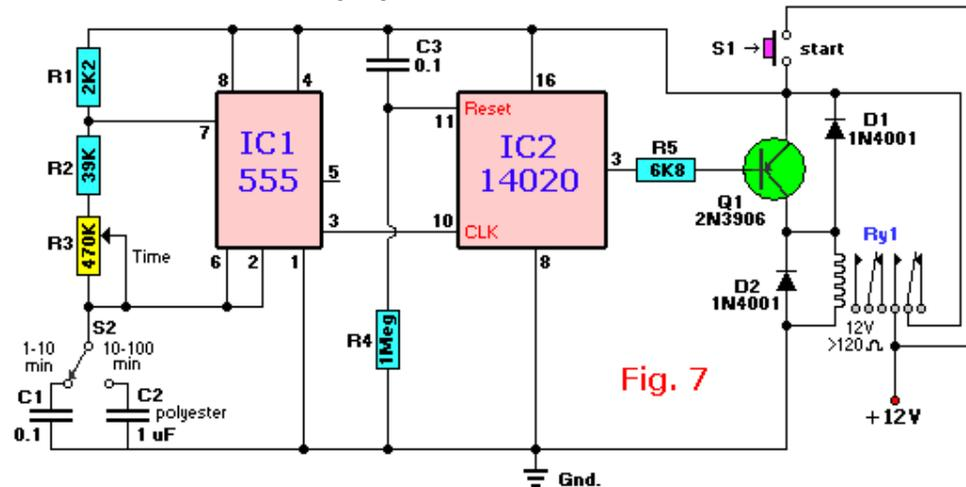

Fig. 7
**Fig. 7** This is an accurate **long-duration** time delay driver, switchable between 1 and 10 minutes or 10 to 100 minutes and whose function does not depend on electrolytic capacitors. Film dielectric caps have been selected. IC1 is configured as a free-running astable multivibrator whose frequency is divided down by IC2, a 14020 (or 4020) CMOS 14-stage, ripple-carry binary divider. Consequently relay RY1 turns on as soon as switch S1 is closed, and it turns off again when the 8192nd astable pulse arrives. This method provides time periods ranging from 1 to 100 minutes, depending on the switch setting of S2.